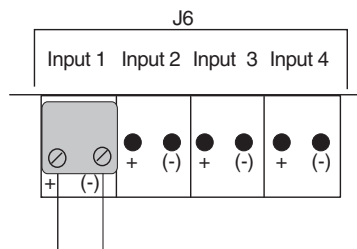

Figure 14 EA800 Base Unit Wired Temperature, Contact Closure, and Water Bug Sensor Connections
4. Insert the stripped wire ends into screw terminals of the adapter as indicated by the EA800 Wiring Diagram you completed in the preparation phase. There is no need to observe polarity when connecting sensor wires. See Figure 14.